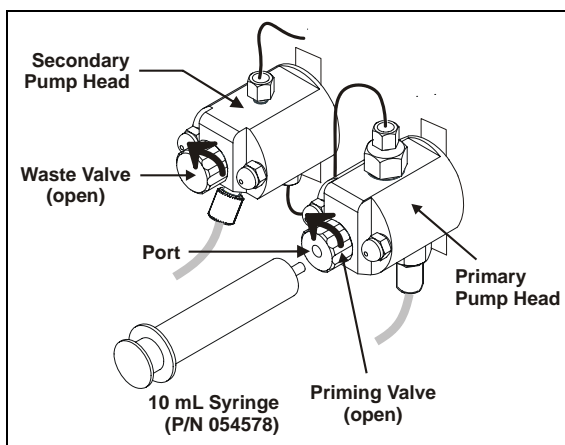

Figure 5-33. Priming the Pump Heads with IPA
1. Connect a 10-mL syringe (P/N 054578) filled with isopropyl alcohol (IPA) to the port in the primary pump head (see Figure 5-33).
2. Open the waste valve on the secondary pump head (see Figure 5-33) by turning the knob one-quarter to one-half turn counterclockwise.